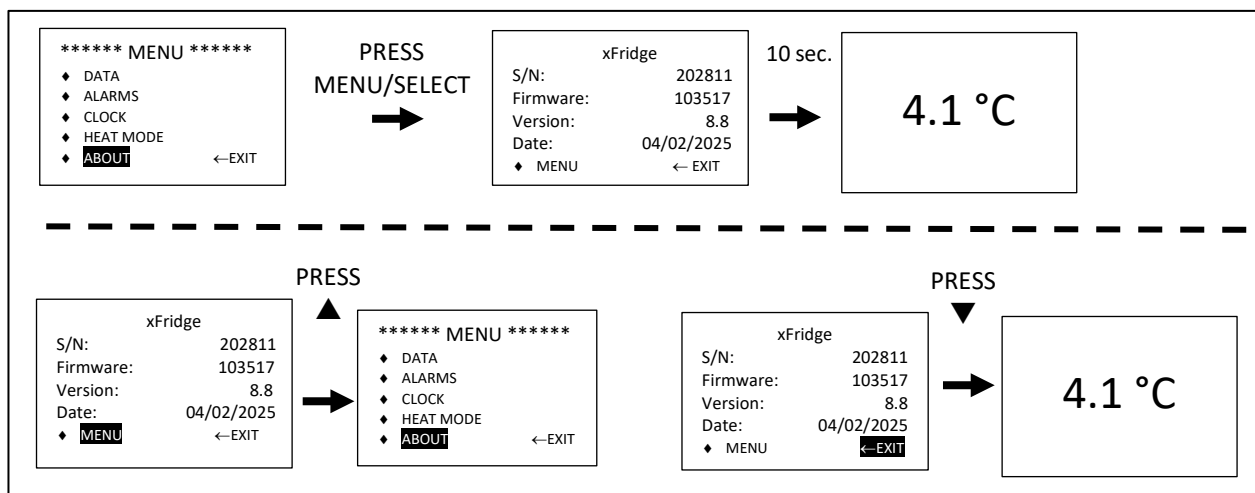

Figure 21: xFridge Unit Information Screen
- Press MENU/SELECT and use ▲ and ▼ to highlight “ABOUT”, then press MENU/SELECT as shown in Figure 21.